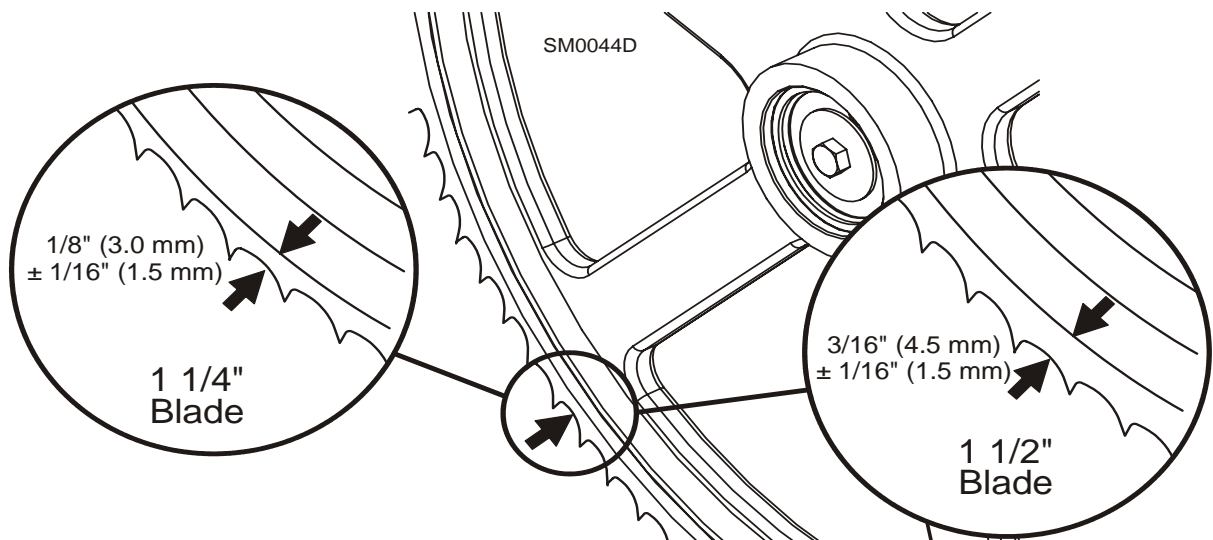

FIG. 7-20
**See Figure 7-20.** The horizontal tilt of the blade wheel should be adjusted so that the gullet of an 1-1/4" blade is 1/8" (3 mm) out from the front edge of the wheel ( $\pm 1/16$  [1.5 mm]). The gullet of an 1-1/2" blade should be 3/16" (4.5 mm) out from the front edge of the wheel ( $\pm 1/16$  [1.5 mm]). Do not let the teeth ride on the wheels.